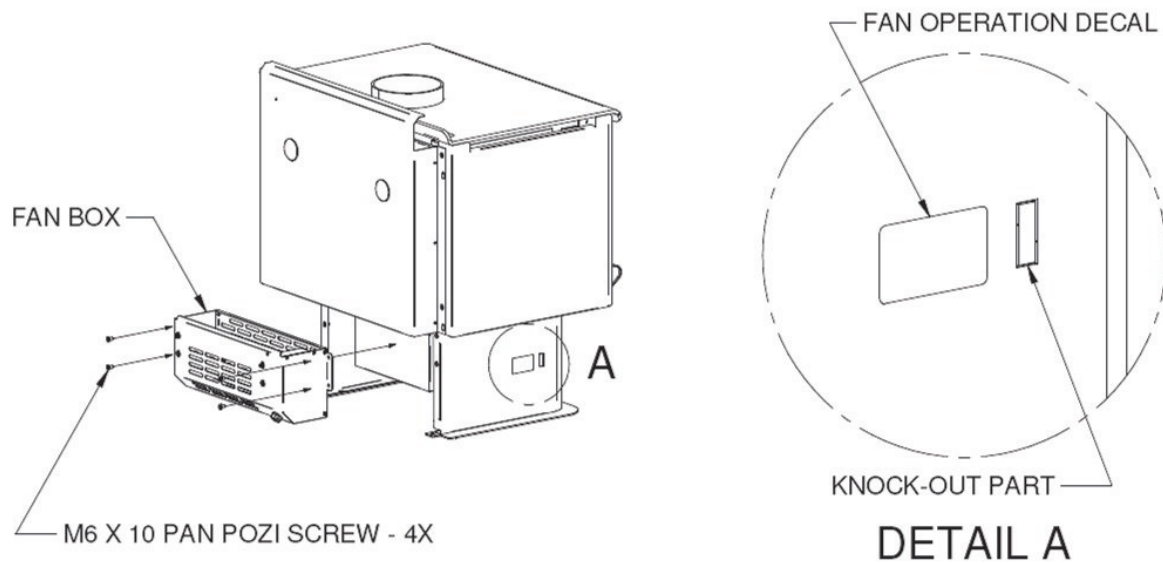

Figure 1. Pedestal version installation
PEDESTAL VERSION (Figure 1)
12. Lift the fan assembly and secure to the back of the pedestal with 4 black screws supplied. For ease of fitment, put the top screws first, then the bottom ones as shown in Figure 1.